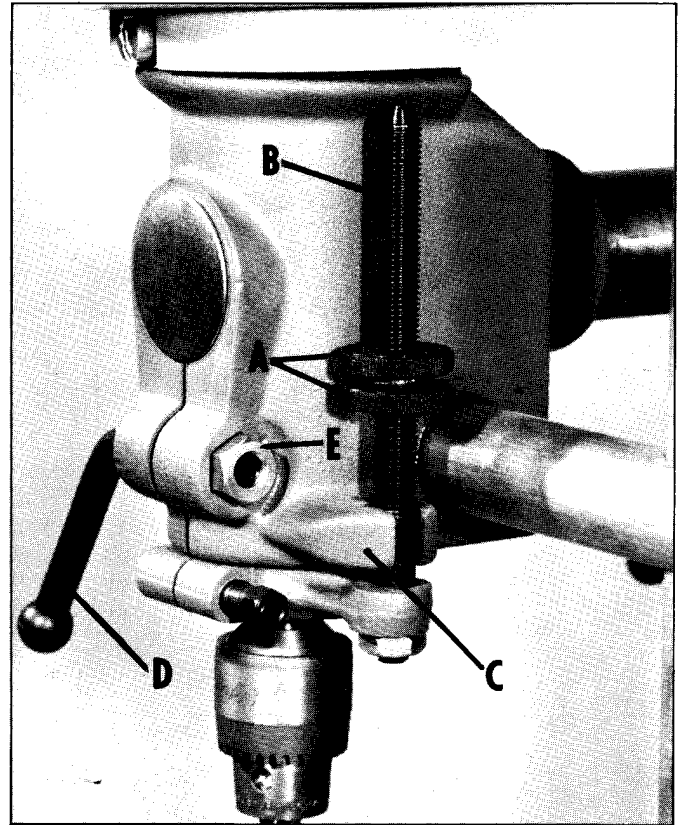

Fig. 20
Where a number of holes are to be drilled to exactly the same depth, the stop nuts (A) Fig. 20, on the threaded stop rod (B) are used. After the first hole has been drilled to depth, the lower stop nut is set against the lug (C) on the head through which the stop rod passes. Return the quill to the up position and tighten the upper stop nut against the lower stop nut and all subsequent holes will be drilled to exactly the same depth.
The spindle is raised or lowered by the hand lever. The quill can be locked at any desired point in its travel by tightening the quill clamping lever (D) Fig. 20. This is an especially desirable feature in operations such as drum - sanding.
The quill clamping lever (D) can be adjusted to lock in any convenient position when tight by shifting the hexagon nut (E) Fig. 20, in its socket. The quill clamping lever should hang downward when loose.
Any play which might develop between the head and quill after considerable use can be taken up by partially tightening the quill clamping lever (D) Fig. 20.